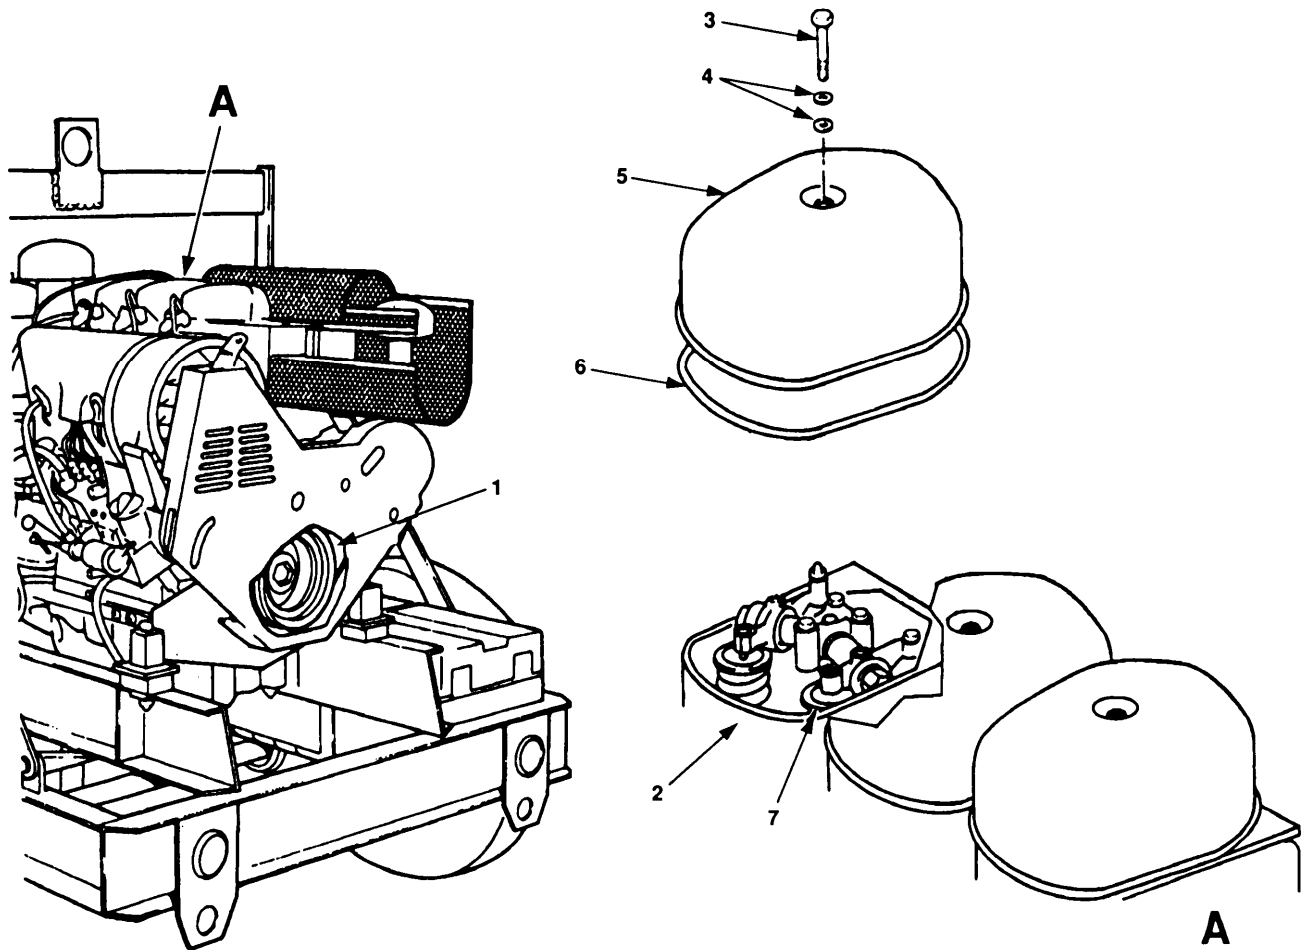

Figure 5-9. Marking of Top Dead Center (TDC).
- a. Install position pointer so that pointed end almost contacts outside edge of crankshaft pulley (figure 5-9, 1).
- b. Locate number 1 cylinder (2).
- c. Remove bolt (3), washers (4), cover (5), and gasket (6).
- d. Rotate crankshaft pulley (1) counterclockwise until valves on number 1 cylinder (2) overlap.
- e. Depress exhaust valve (7) of number 1 cylinder down. Install 0.006 (6 mm) keystone between exhaust valve stem face and rocker arm.
- f. Rotate crankshaft pulley (1) clockwise until piston lightly contacts open exhaust valve (7). Scribe mark even with pointer on front pulley.
- h. Rotate crankshaft pulley (1) clockwise 1/2 turn and install 0.006 (6 mm) keystone between number 1 cylinder (2) exhaust valve (7) stem face and rocker arm.
- i. Rotate crankshaft pulley (1) counterclockwise until piston lightly contacts open exhaust valve (7). Scribe mark even with position pointer on front of crankshaft pulley (1).
- e. While holding pulley in place, use angle of turn indicator tool to torque bolt (1) in accordance with appendix G.
- (1) Install position pointer so that pointed end almost contacts outside edge of crankshaft pulley (figure 5-9, 1).
- (2) Locate number 1 cylinder (2).
- (3) Remove bolt (3), washers (4), cover (5), and gasket (6).
- (4) Rotate crankshaft pulley (1) counterclockwise until valves on number 1 cylinder (2) overlap.
- (5) Turn crankshaft pulley 360° (one complete turn).
- (6) Rotate crankshaft pulley 1/4 turn.
- (7) Depress exhaust valve (7) of number 1 cylinder down. Install 0.006 (6 mm) keystone between exhaust valve stem face and rocker arm.
- (8) Rotate crankshaft pulley (1) clockwise until piston lightly contacts open exhaust valve (7). Scribe mark even with pointer on front pulley.
- (9) Rotate crankshaft pulley counterclockwise 1/4 turn and remove keystone.
- (10) Rotate crankshaft pulley (1) clockwise 1/2 turn and install 0.006 (6 mm) keystone between number 1 cylinder (2) exhaust valve (7) stem face and rocker arm.
- (11) Rotate crankshaft pulley (1) counterclockwise until piston lightly contacts open exhaust valve (7). Scribe mark even with position pointer on front of crankshaft pulley (1).